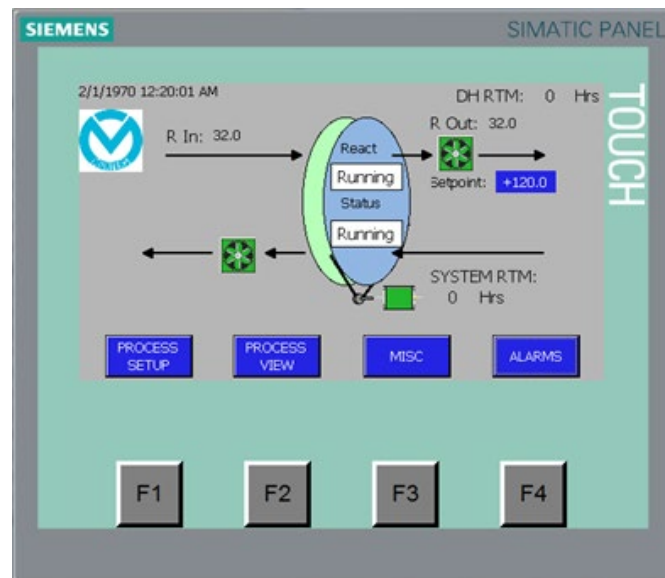
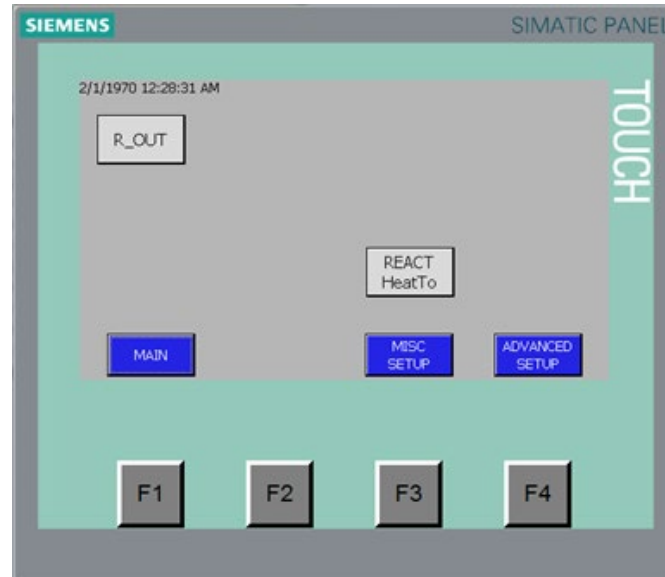

Figure 3-3
Figure 3-4
If the unit has a remote sensor such as a humidistat, or can be turned on by a remote control system, set the Auto/ Off/ Manual switch to Auto. The unit will begin to run, and the operator interface will show that the machine is running. See Figure 3-3. (If the unit does not run, check the setpoint on the humidistat.)
If the unit does not have a remote sensor, turn the Auto/ Off/ Manual switch to Manual. The unit will begin to run, and the operator interface will show that the machine is running. See Figure 3-3.
1. The present value (PV) reactivation inlet and outlet temperatures can be viewed on the Machine Running screen (See Figure 3-3). To view details (CV, SP, and a PV chart) associated with the reactivation inlet and outlet temperatures, press the PROCESS VIEW button. See Figure 3-4.